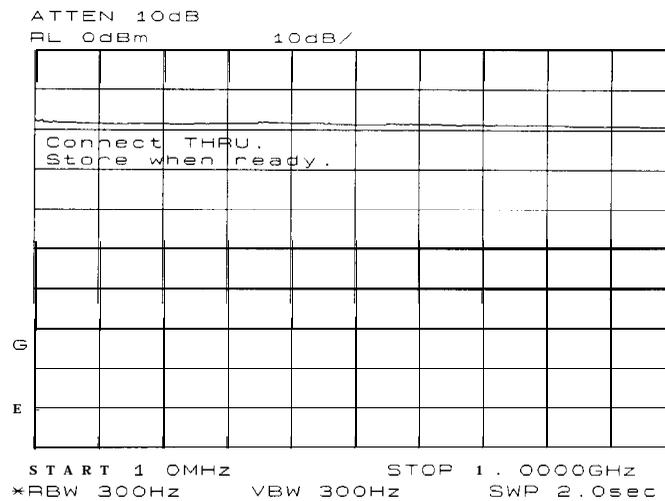

Figure 2-35. Guided calibration routines prompt the user.
- b. The guided calibration routine prompts you to connect the thru, as illustrated in Figure 2-35. Connect the thru, then press **STORE THRU** to store the thru trace in trace B and in an internal memory location in the analyzer.